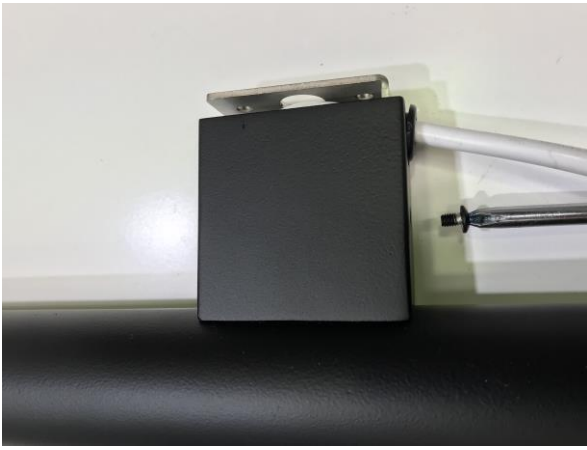

Fig 1 Exposed wiring
Installation instructions are shown in Fig 1 and 2. The HEIKO POLE Towel Warmer must be fixed through the wall cladding directly to studs or other suitable anchor material. The towel warmer must be located in compliance with the AS/NZS 60335 Standard. HEIKO POLE 12V towel warmers have an IP47 rating offering you the greatest flexibility to safely locate the towel warmer in bathrooms or shower rooms in **Zone 1-3**. All other electrical fittings must also be compliant with the zone within which the warmer is being installed.
**EXPOSED FLEX INSTALLATION: (Fig 1)**